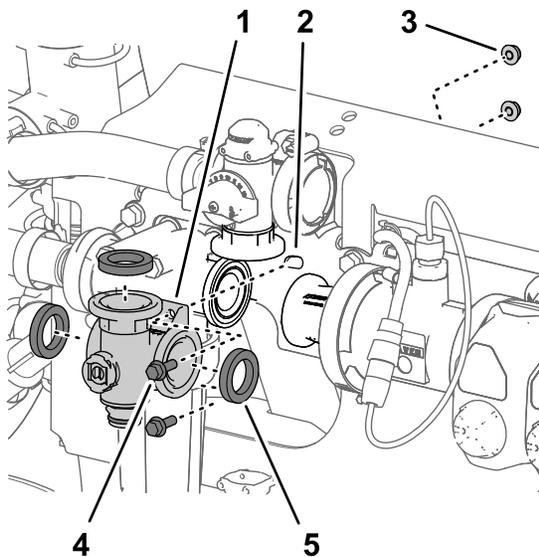

Figure 119
3. Remove the 2 flange-head bolts (1/4 x 3/4 inch) and 2 flange locknuts (1/4 inch) that secure the agitation-valve manifold to the valve support (Figure 119).
4. Remove the agitation-valve manifold and gaskets from the machine (Figure 119).